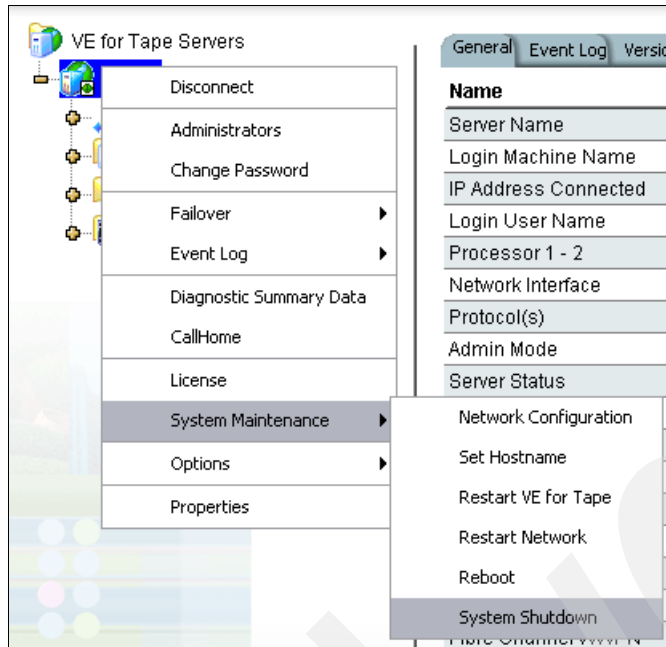

Figure 5-80 Halting the 3954 Model CV5 from the Virtualization Engine for Tape Console
- a. From the Virtualization Engine for Tape Console, left-click the 3954 Model CV5 server you want to power off. Select **System Maintenance** → **System Shutdown** for each 3954 Model CV5, as shown in Figure 5-80.